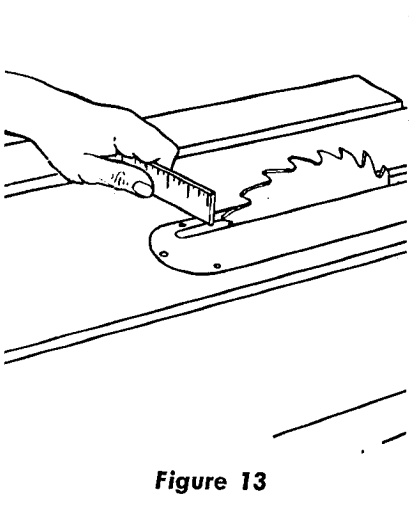

Figure 13
e. Adjust the Table Insert. (See figures 13 and 14.)
- (1) Press down on table insert with fingers to make sure it is properly secured in the table opening.
- (2) Using a small scale or straightedge, check at
each of the four set screw positions to determine if the table insert is even with saw table surface. (See figure 13.) If unevenness exists, adjust as follows: